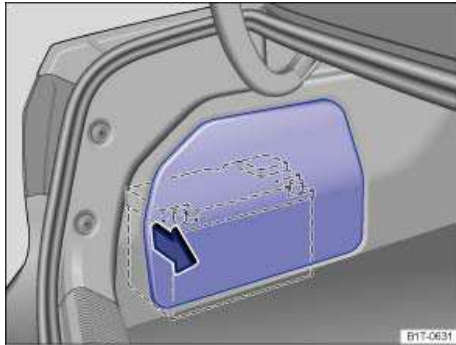

Fig. 189 In the side of the luggage compartment: On vehicles with 3.6 liter engines, the vehicle battery is on the left side of the luggage compartment.
- On vehicles with 3.6 liter engines: Remove the trim panel to access the vehicle battery ⇒ fig. 189